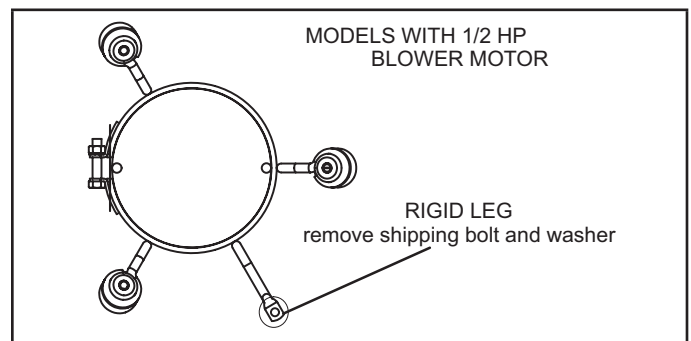

FIGURE 11
**NOTE** - Units with 1/2 hp blower motors are equipped with three flexible legs and one rigid leg. See FIGURE 11. The rigid leg is equipped with a shipping bolt and a flat white plastic washer (rather than the rubber mounting grommet used with a flexible mounting leg). **The bolt and washer must be removed before the furnace is placed into operation.** After the bolt and washer have been removed, the rigid leg will not touch the blower housing.